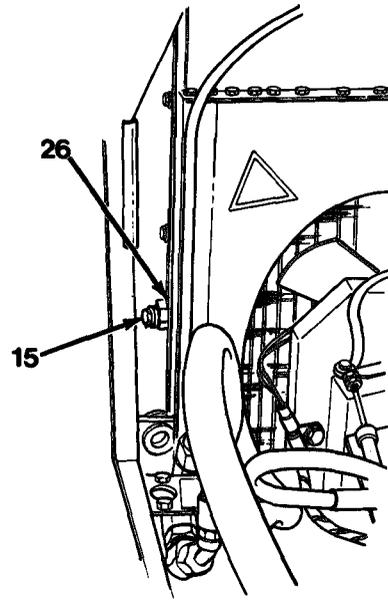

Figure 9-10
13. Install two capscrews (15) in radiator and oil cooler assembly (26, Figure 9-10). Attach suitable sling to two capscrews (15) and using hoist, carefully lift forward and up away from crane.